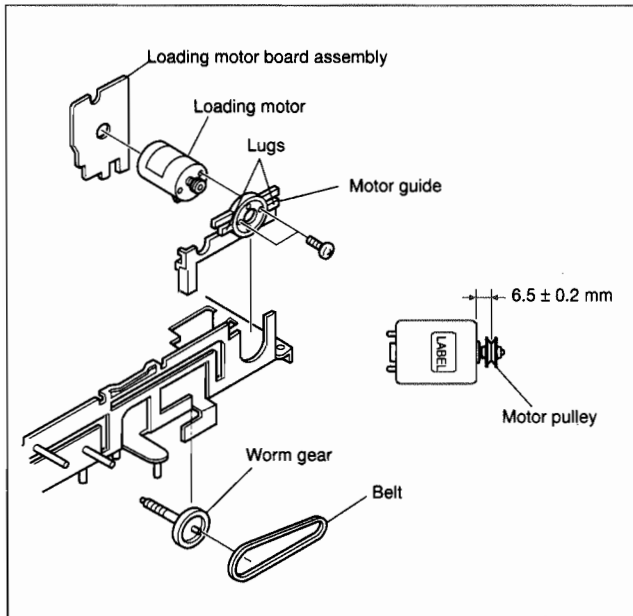

Fig. 2-2-16
- (1) Remove the belt wound around the worm gear.
- (2) Open the two lugs of the motor guide and remove the loading motor, loading motor board assembly and motor guide altogether by pulling them up.
- (3) When replacing the loading motor board assembly, take care with the orientation of the loading motor. (Install so that the loading motor label faces upward.)
- (4) When the motor pulley has been replaced, choose the fitting dimension as indicated in Fig.2-2-16.